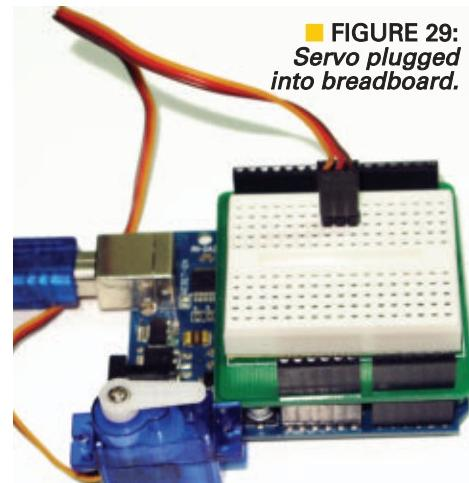

FIGURE 29: Servo plugged into breadboard.
- Plug the three-pin header into the breadboard as shown in **Figure 29**. These pins are short so you'll need to exercise care to keep the header plugged into the breadboard.